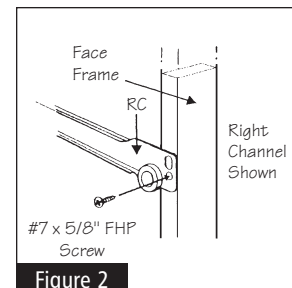

Figure 2
Place right (RC) channel and left (LC) channel assembly into cabinet. Refer to Figure 2 for right (RC) appearance and position. Push dowels on rear plastic bracket through holes in cabinet back. While in position, fasten each channel to the front cabinet FRAME using the #7 x 5/8" FHP screws. Secure the channels to the front frame through the lower hole of the channel into the factory pre-drilled holes of the frame. The screw head should be flush to the channel.